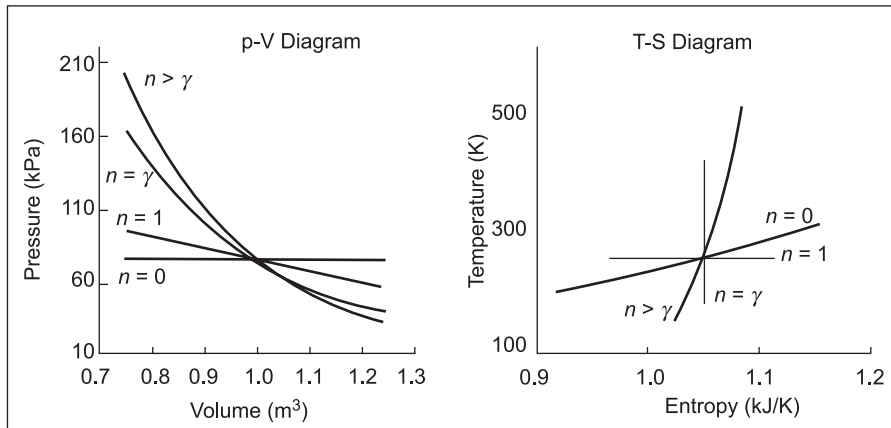

Figure 1.11 Example of quasi-static process
12. **Quasi-static process:** A quasi-static process is the one which proceeds infinitesimally slowly so that there is no disturbance to the conditions of the system and/or surroundings. Therefore, by definition, it is also a reversible process (Figure 1.11).